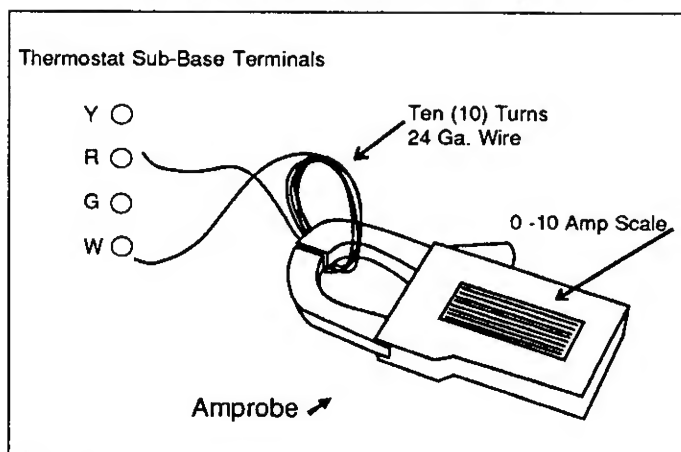

FIGURE 22
4. Make sure 115-volt power to furnace is on. Connect ends of wire on ammeter across terminals "R" and "W" of thermostat sub-base. Follow Figure 22.